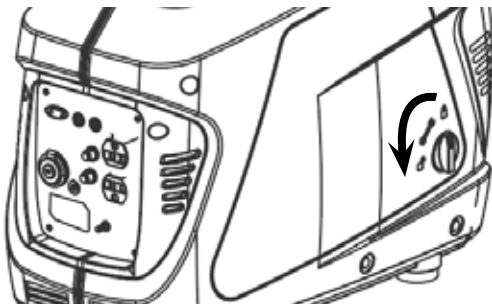

Figure 1: Engine Service Panel
1. Turn the locking knob on the engine access panel and set aside (see Figure 1).